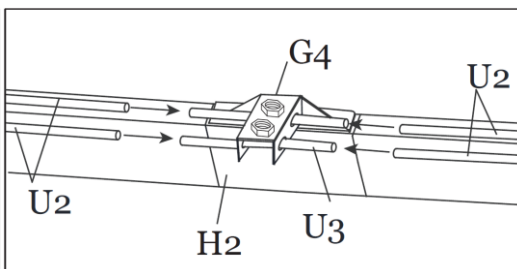
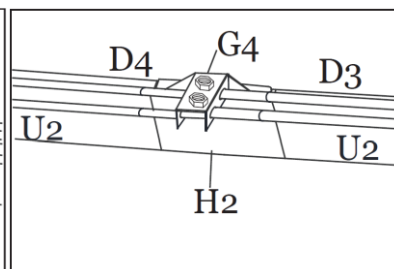
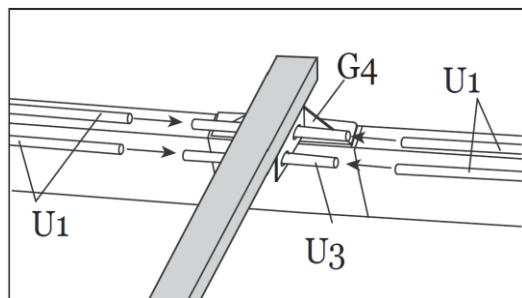
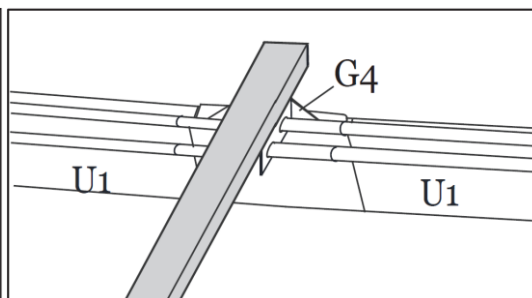

Figure 10-4
Figure 10-5
Figure 10-6
Figure 10-7
Step 10D: Insert Short and Long Mosquito Netting Tubes (U1 and U2) into Mosquito Netting Connector Tube (U3). See Figure 10-4, Figure 10-5, Figure 10-6 and Figure 10-7.